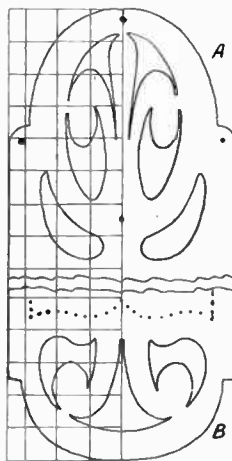

Fig. 2—The ends of the plate enlarged
The metal must be beaten flat, and the design traced upon it by means of carbon paper. If the nature of the material used does not allow this process, then the design may be made on thin tracing paper and stuck down with gum to the metal. In Fig. 2 (A) and (B), we show enlargements of the ends of the finger plates. Only these portions need be reproduced, the remaining straight central part of the plate being simply drawn in with pencil or lined in with a pointed steel scriber.
It will be noted on the diagrams (Fig. 2) that only one half of each has been squared over with $\frac{1}{2}$ in. squares taken from the centre line. When these squares have been reproduced full size on paper, and the design enlarged on it, this half may be traced on thin paper and that then turned over and the corresponding side drawn over it, thus completing the whole outline ready for transferring to the metal. A special type of metal-cutting fretsaw blade should be used for the frets and the outline.